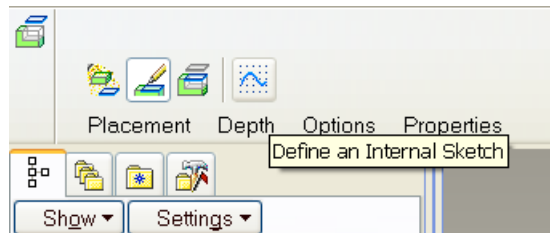

Figure 1.42
- Click on the Sketch window type  to define the window plane and sketch the window. Select top surface as sketch plane and click on the Define an Internal Sketch to sketch as shown in Figure 1.42.